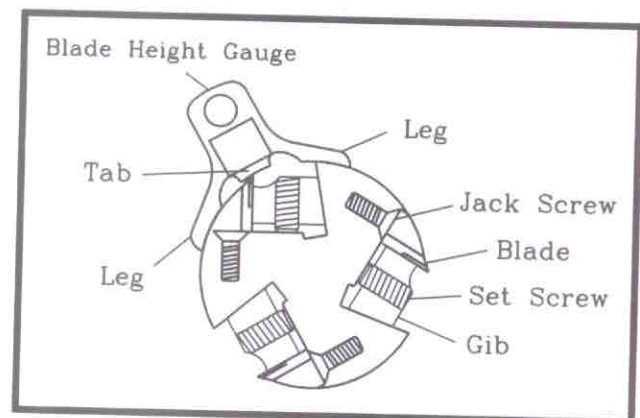

Fig. 8
7. Raise or lower knife by turning jack screw. Knife is at correct height when knife tip just touches center tip of knife gauge. (Fig. 8)